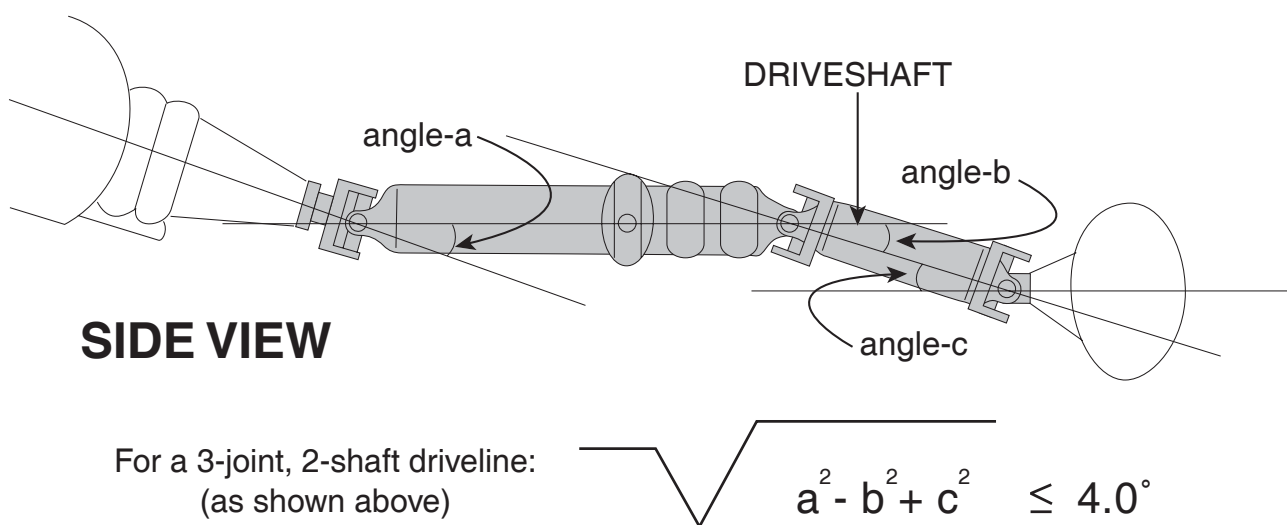

Figure 21
- b. Condition #2: When added together, the operating angles throughout the driveline MUST cancel. The operating angles at either end of a shaft should be within 1° of each other or at least satisfy the following formula in order to provide adequate cancellation (Figure 21).